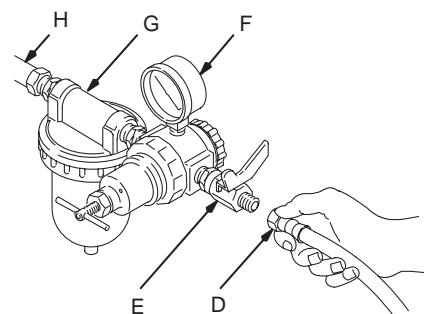

Fig. 3
- You must install an air pressure regulator (F) on the gun air line to control air pressure to the gun. See Fig. 3.
- If your regulated air source does not have a filter, install an air filter (G) on the air line to ensure a dry, clean air supply to the gun. Dirt and moisture can ruin the appearance of your finished workpiece. See Fig. 3.
1. Connect the air hose (D) to the 1/4 npsm air inlet (C).
2. Connect the other end of the air hose (D) to a regulated air supply line (H).
NOTE: Fig. 3 shows the filter (G) air regulator (F), and air shut-off valve (E) on the air supply line.